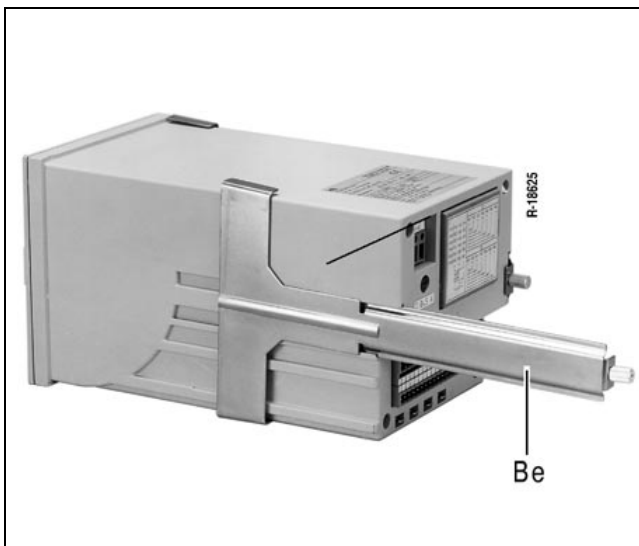

Fig. 3 Mounting the brackets
2. Fit mounting brackets *Be* laterally into the fitting notches on the case (see fig. 3).